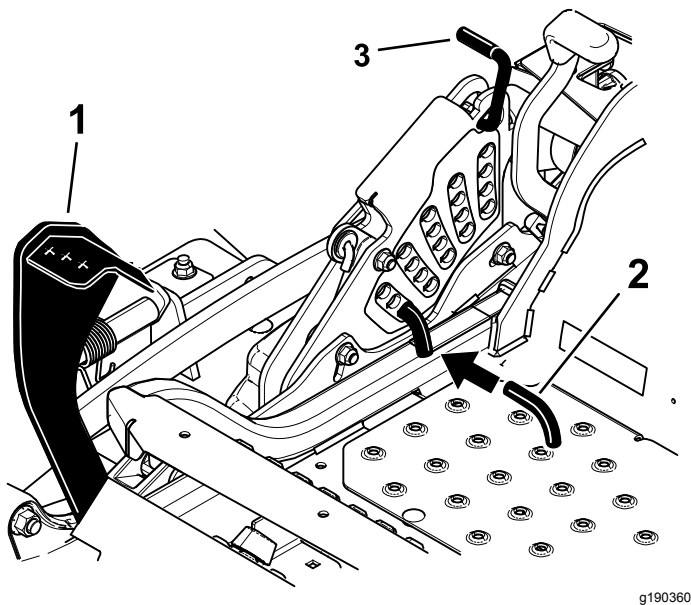

Figure 92
5. Push the deck-lift pedal all the way forward and the deck latches at the 14 cm (5 1/2 inches) TRANSPORT position (Figure 92).